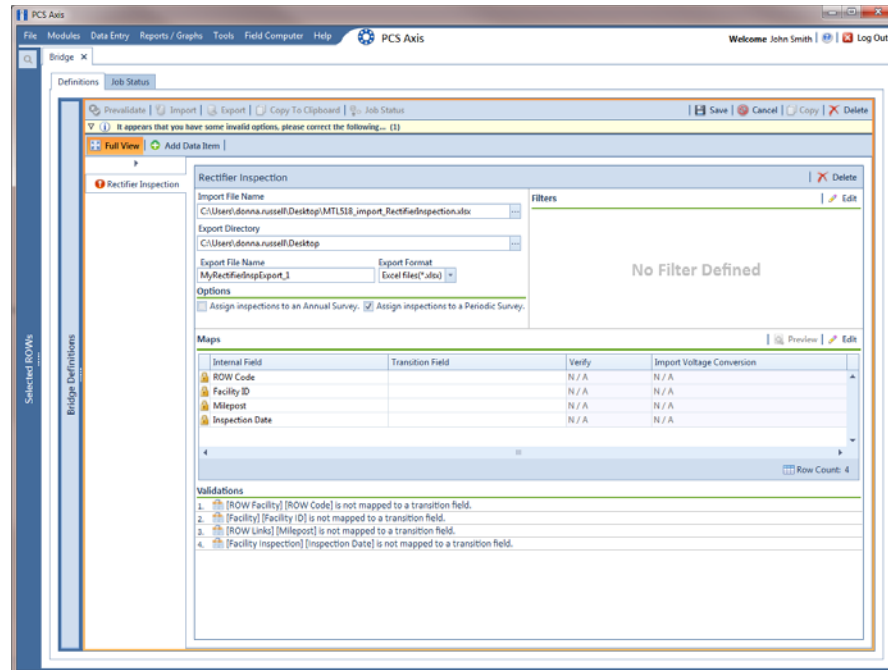

Figure 9-35. Bridge Import Export
- 14** Select a file format and a location to save the export file using the following steps (Figure 9-35, page 421):
- 15** If you want to assign inspections in the import file to a survey folder based on the inspection date, complete one or both of the following steps in the *Options* group box as required (Figure 9-35, page 421).